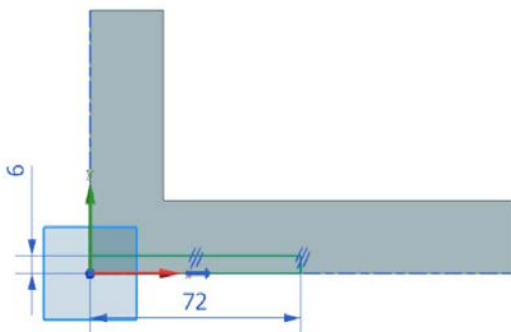

Figure 5-53 Sketch created for the second feature
2. Draw the rectangular sketch of the cut feature. Make the bottom line and the left line of the rectangle collinear with the edges of the base feature. Add the required dimensions to the sketch, refer to Figure 5-53.